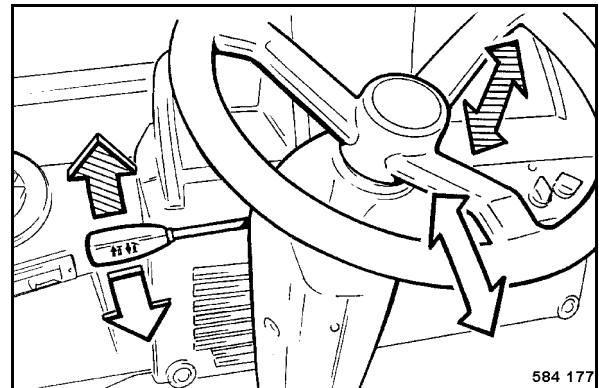

Fig. 70
- Adjustment of steering wheel in height, pull lever (Fig. 70) up and move the steering wheel to the desired height.